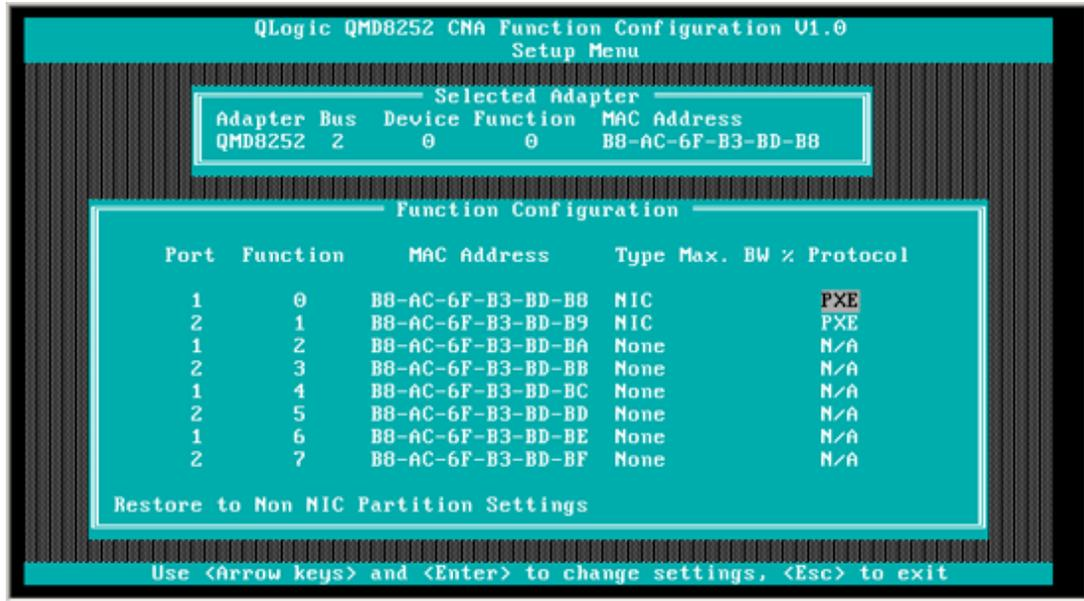

Figure 2-2. QLogic 8200 CNA Function Configuration
7. On the **CNA Function Configuration** main window, ensure that **Protocol** is set to **PXE** (Figure 2-2).